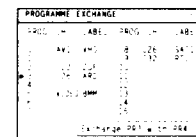

Fig. 16.
- 5 Using  $\rightarrow$  or  $\leftarrow$ , select the programme position to be exchanged and press OK. Now the two programme positions have been exchanged. (See Fig. 16.)